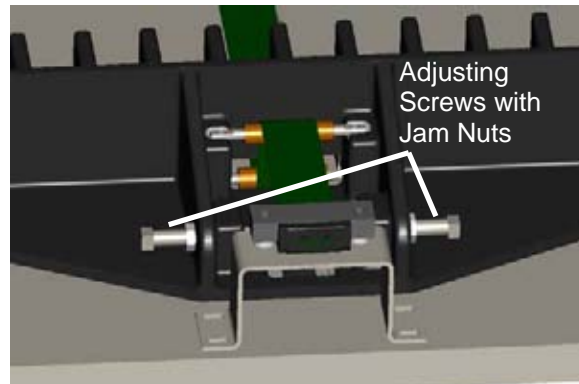

Figure 37
3. Loosen the jam nuts on the backgauge adjusting screws (Figure 37).